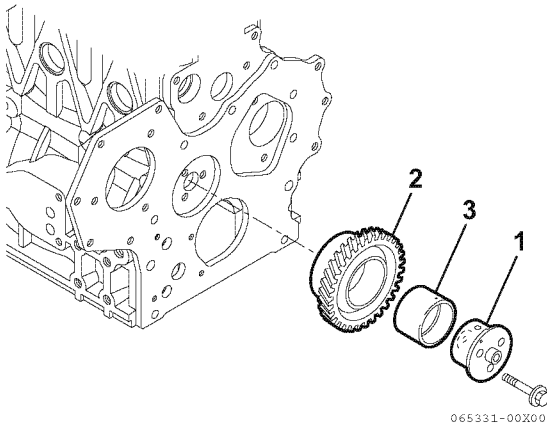

Figure 6-44
1. Remove the bolts from the idler gear shaft (1, **Figure 6-44**). Remove the idler gear shaft, idler gear (2, **Figure 6-44**) and bushing (3, **Figure 6-44**).